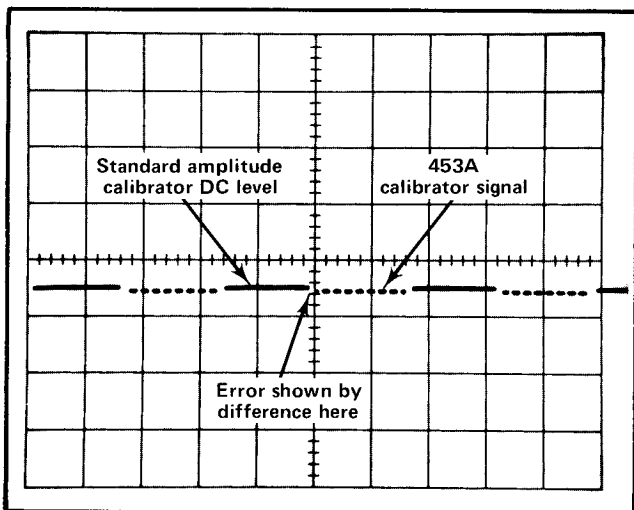

Fig. 5-2. Typical CRT display when checking voltage output of calibrator.
g. CHECK—Difference between the standard amplitude calibrator output level and the 453A calibrator output is 0.1 division or less (one volt output, $\pm 1\%$; see Fig. 5-2).
k. CHECK—Difference between the standard amplitude calibrator output level and the 453A calibrator output is 0.1 division or less (0.1 volt output, $\pm 1\%$; see Fig. 5-2).